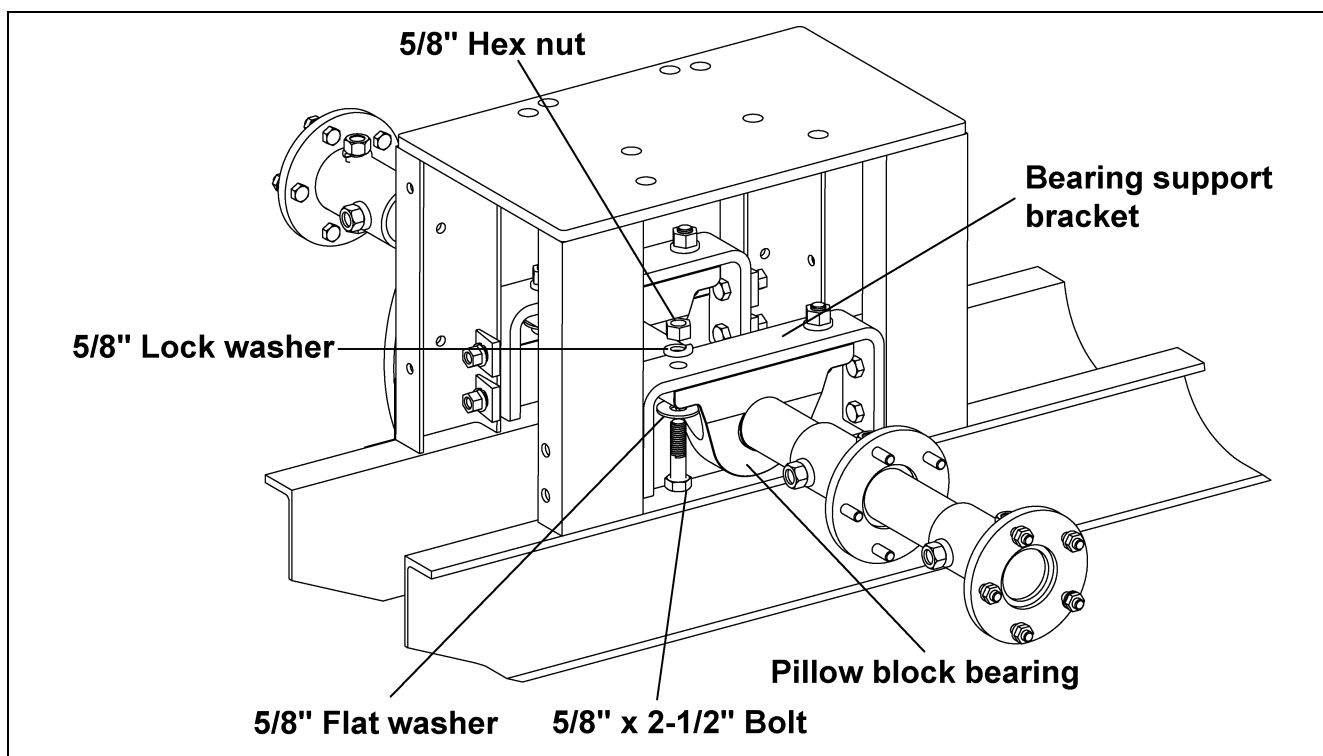

Figure 5L
- F. Attach pillow block bearings to the bearing support brackets using 5/8" x 2-1/2" bolts, 5/8" lock and flat washers and 5/8" hex nuts. (See Figure 5L.)